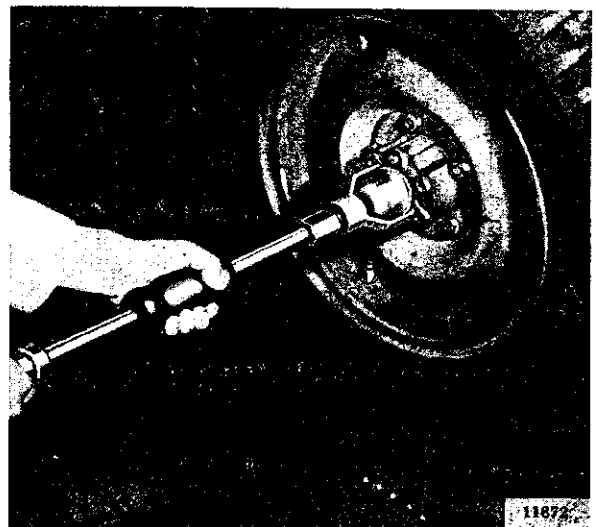

FIG. M-3—HUB CAP PULLER
- b. Remove the hub cap with a puller as shown in Fig. M-3.